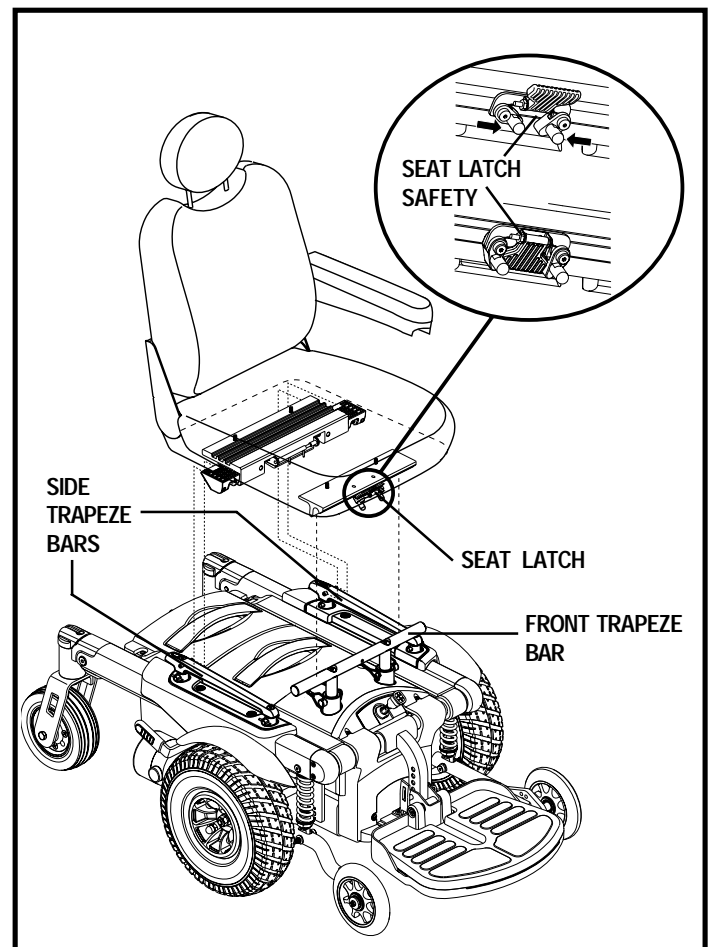

Figure 12. Seat Installation
It may be necessary to install the seat either prior to initial operation or after transporting your power chair. Most seats are attached to the power base with the Universal Mounting System (UMS). The UMS consists of universal parts that may be attached to any medium-back or high-back seat, regardless of seat width or seat depth. The two main components are aluminum extrusions mounted to the seat base. These extrusions attach to a set of trapeze bars that are mounted to the power base (see figure 12).
3. Slide the seat onto the side trapeze bars and slowly lower the seat onto the front trapeze bar until it locks into place. See figure 12.
4. Flip the seat latch safety down. See figure 12.
2. Squeeze the seat latch together. See figure 12.